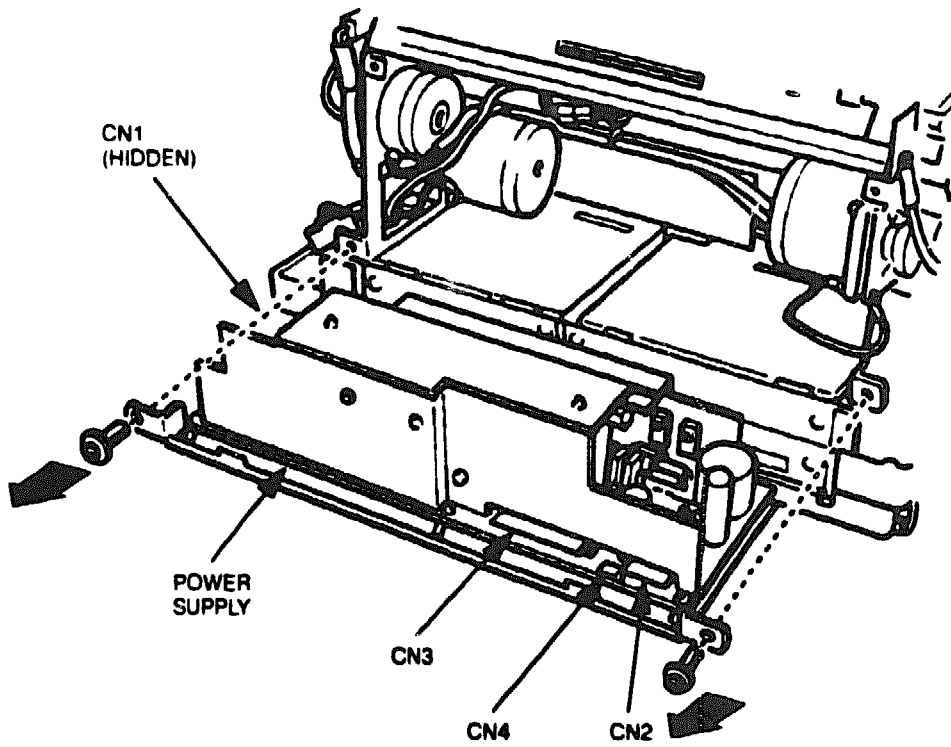

Figure 6-63 Power Supply Removal
3. Unplug connectors CN1 through CN4 on the power supply (see Figure 6-63).
4. Remove the two screws shown in Figure 6-63 and pull the power supply out of the printer.